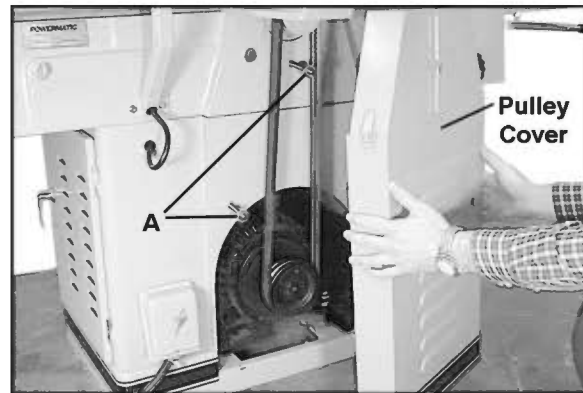

Figure 9
1. Remove the three cap nuts and flat washers on the pulley cover with a 9/16 wrench and remove the guard to expose the belts and pulleys. See Figure 9.
NOTE: The hex nuts and flat washers on the threaded rods (A, Figure 9) should be left in place; they keep the pulley cover from bending as it is being tightened back into place with the cap nuts.